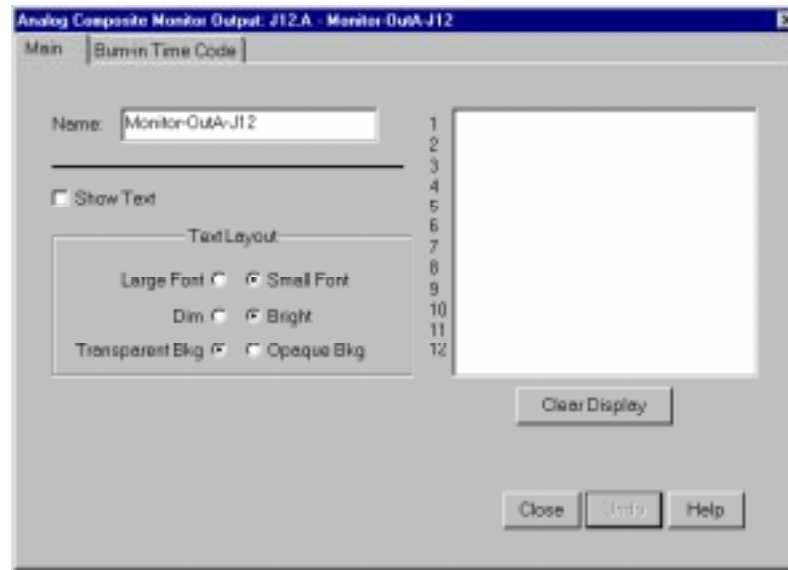

Figure 24. Analog Composite Monitor Output dialog box, Main tab
1. Select **Video Output** from the configuration tree, and then click or double-click a monitor output from the list, such as *Monitor-Out-J12*. The Analog Composite Monitor Output dialog box appears (see Figure 24).